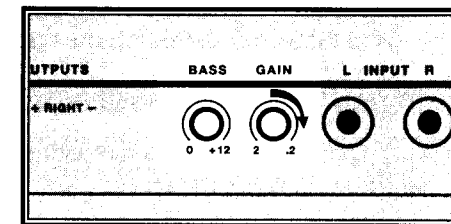

Figure 10 - Gain Control
3. Turn the "Gain" setting adjustment on the M25 clock-wise (i.e. to the right) until you hear the amplifier distort. The M25 "clips" very softly so this can sometimes be a difficult adjustment. Please listen carefully! (see Figure 10)